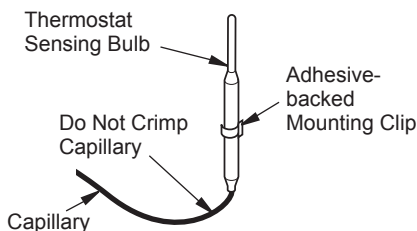

Figure 37 - Positioning the Thermostat Sensing Bulb in the Vertical Position with the Capillary at the Bottom
4. The mounting clip must be a minimum of 3" from bottom of fireplace to prevent crimping of capillary. Once you have decided on a location, clean the area thoroughly. Remove the paper backing from the adhesive on back of mounting clip. Press the clip into the new location so that the thermostat sensing bulb will be positioned vertically with the capillary at the bottom (see Figure 37). Slide the thermostat sensing bulb into the clip.